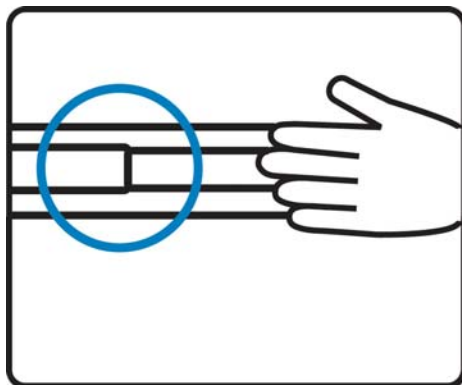

Figure 16
- Push the LCD keyboard drawer into the rack. (shown in **Figure 16**).